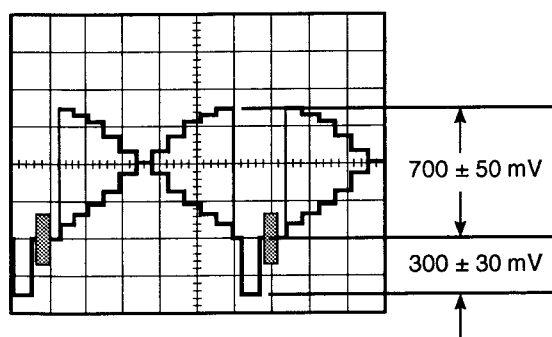

Fig. 5-21
- Adjust data with the **ARROW** keys so that the Video signal level becomes 700 ± 50 mV as shown in Fig. 5-21.